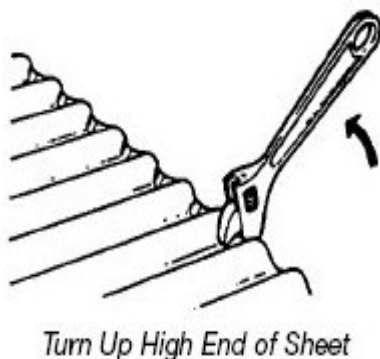

Figure 1
1. On roofs with a slope below 25°, the trays between the ribs require turning up to prevent wind driven water from entering the building. Before sheet installation, ribbed sheets are gripped with an adjustable spanner and turned up as far as possible. Special tools are available for other sheet profiles. See Figure 1.